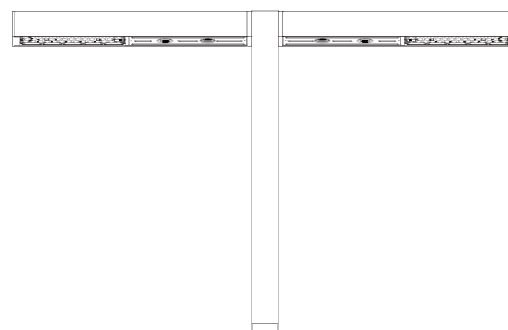

Fig. 15
2. After the assembly is completed, the finished product of the lamp body is shown in Fig. 15.